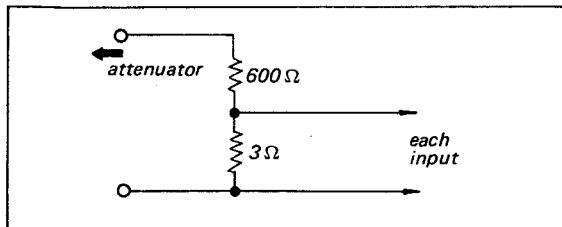

Fig. 3-1. 46 dB pad
**Note:** 1. When measuring the sensitivity of the PHONO-1 LOW LEVEL input, insert a 46 dB pad (shown in Fig. 3-1.) between the attenuator and input terminal. The input sensitivity may be regarded as the reading on the attenuator plus the pad loss.
\* The PHONO-1 IMPEDANCE SELECTOR switch should be set to  $30 \Omega$  and an additional attenuator pad (See Fig. 3-1.) used between the main attenuator and input jack.